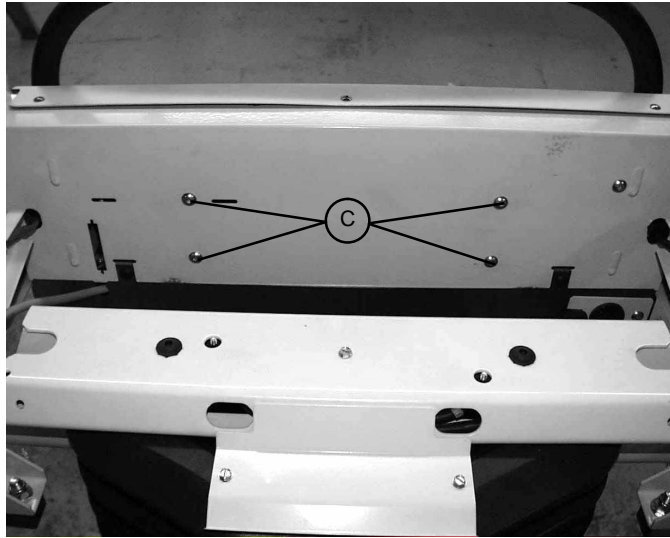

FIGURE 2
7. Using a T27 Torx, remove the four bolts (C) at the head end of the bed holding the control bar mounting bracket to the head end (see Figure 2).